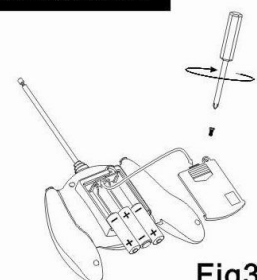

Fig3
2. open the remote battery cover, install on the remote control 3 "AA" batteries (not included) in the correct way, install battery cover with Phillips screwdriver tighten the screw clockwise (optional). (Figure 3)